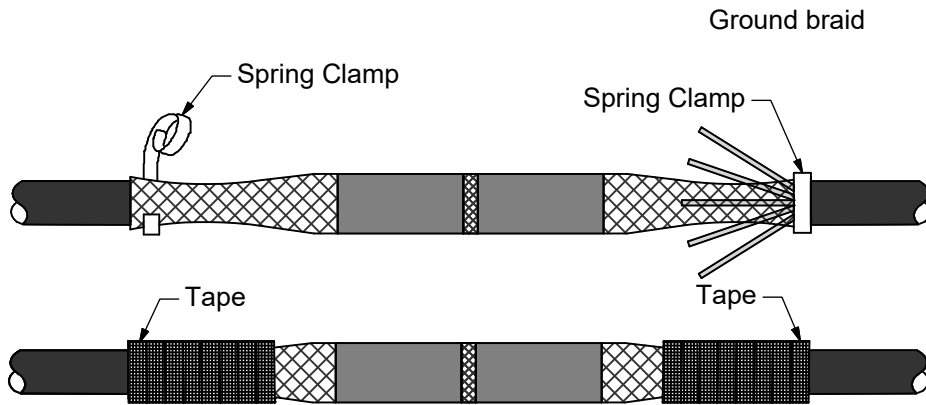

Figure 8
- Secure the spring clamp with three wraps of vinyl tape (Stk. # 2553055) wrapped in the same direction as the spring clamp. Continue taping over the ends of the mesh to cover all sharp points. Follow the above steps to complete the other side. See Figure 8.